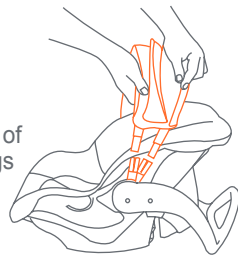

Fig. 25-1
- Slowly rotate the handle to the desired position. The buttons should pop out and the handle should automatically lock into the new position (Fig. 25-1).